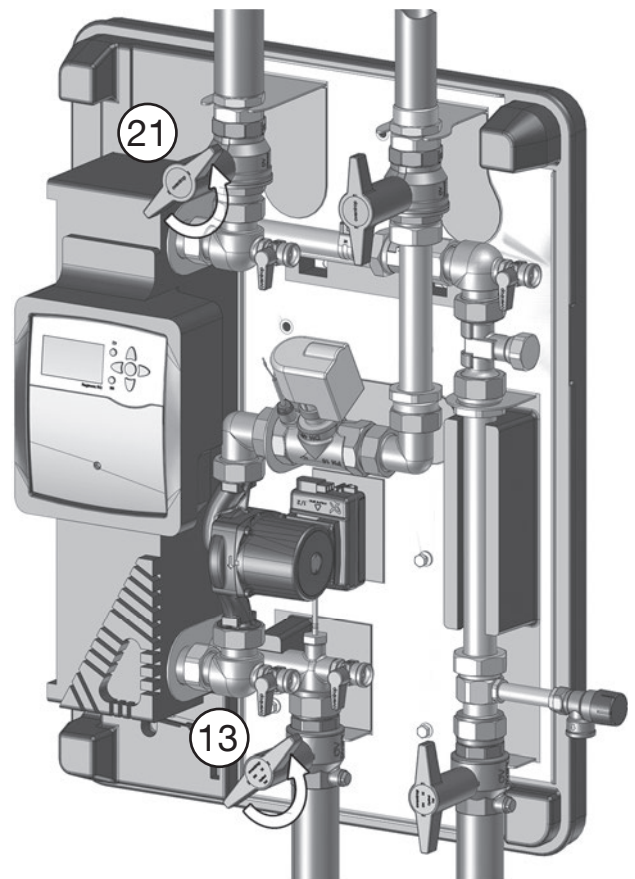

Fig. 5.12: Open the isolating ball valves (13) (PWH) and (21) (storage cylinder circuit return)
17. Open the isolating ball valves (13 and 21) (Fig. 5.12).